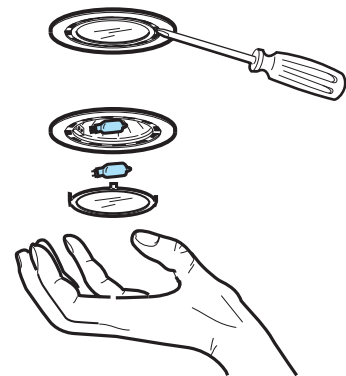

Fig. 5
- Remove the lamp cover, use a flat bladed screw driver as a lever. **Fig. 5.**